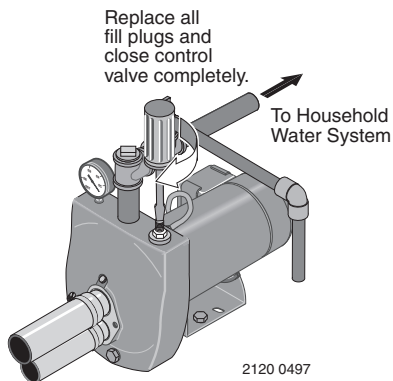

Figure 11: Prime Pump
Step 2. Replace all fill plugs and close the control valve completely (Figure 11).